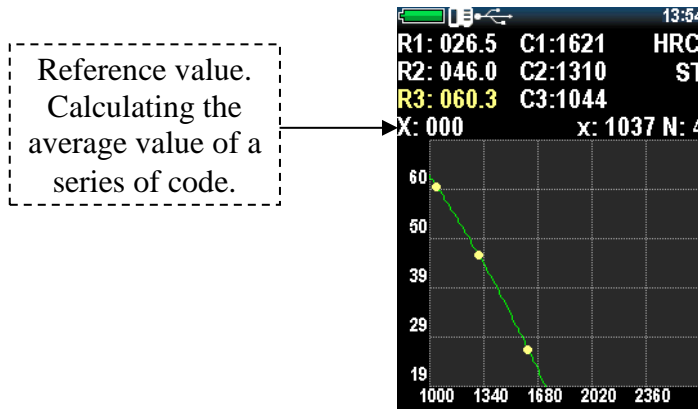

Figure 2.32 - Calibration performed for one sample
5. Move to the next nominal <↓>, and complete the same procedure to the other samples (Fig. 2.32).